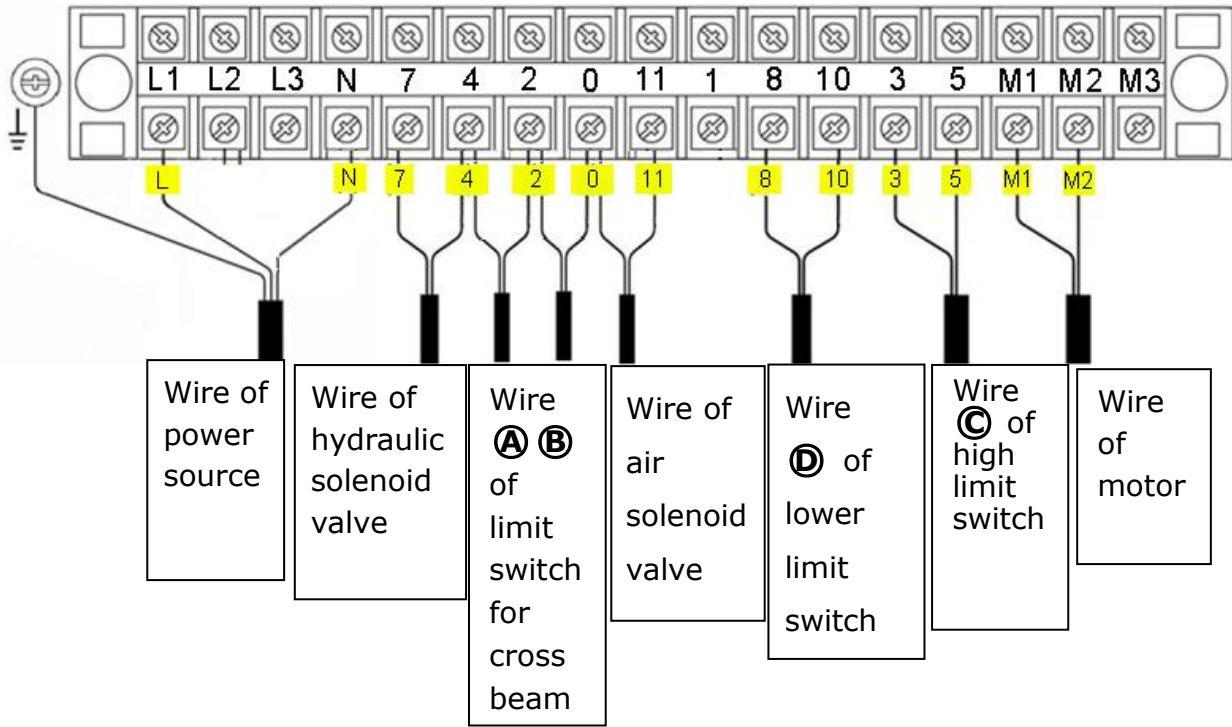

Fig. 47
6.1 Wire Connection diagram in the control box (See Fig. 47).